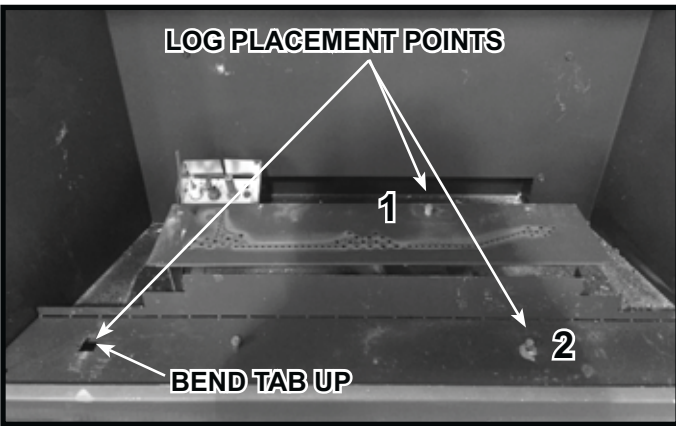
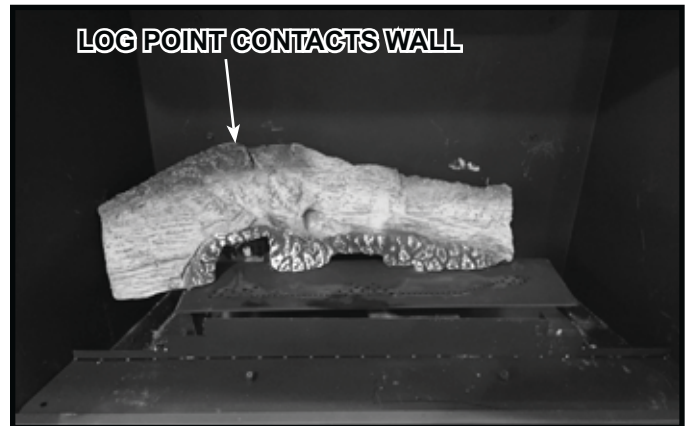
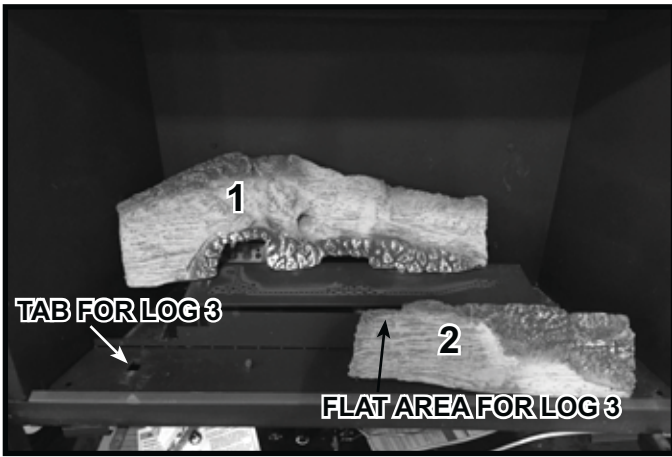
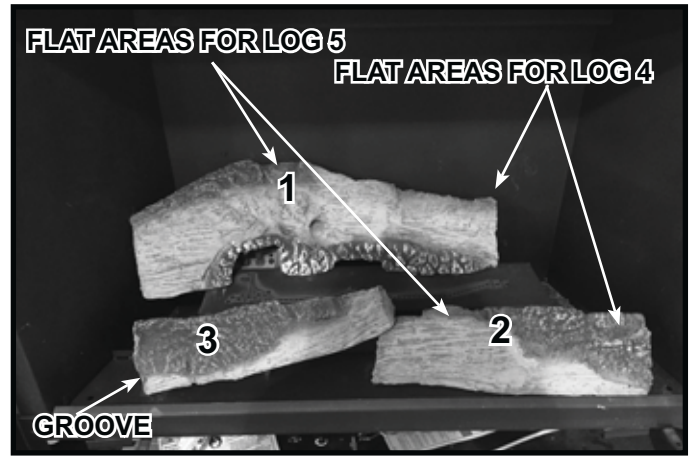

Figure 3.
Figure 4.
Figure 5.
Figure 6.
Figure 3 shows the points used for correct log placement. Bend the tab on the basepan upward to a 90 degree angle as shown. The two shoulder screws will be used in placement of Log 1 and Log 3.
**Log #1 SRV2401-701:** Locate the hole on the bottom right side of Log 1 and the shoulder screw marked "1" in Figure 3. Place the hole onto the shoulder screw as shown in Figure 4. Push the left side of Log 1 back until it contacts the back wall of the firebox.
**Log #2 (SRV2401-702):** Locate the hole on the bottom side of Log 2 and the shoulder screw marked "2" in Figure 3. Place the hole onto the shoulder screw as shown in Figure 5. Push the left side of Log 2 back until it contacts the back of the basepan.
**Log #3 (SRV2401-703):** Locate the groove on the left side of Log 3. Place the log on the tab that was bent up in Step 1 and set the right side of the log on top of the flat area on Log 2. Refer to Figure 5 for tab and flat area. Figure 6 shows Log 3 placed correctly.
**Log #6 (SRV2397-705):** Locate the flat areas on Log 1 and Log 2, highlighted in Figure 6. Place log 6 onto the flat area of Log 2 with the bark facing the front of the appliance. Rest the back of Log 6 onto the flat spot on the far right of Log 1. Log 6 will rest against the back of the appliance.